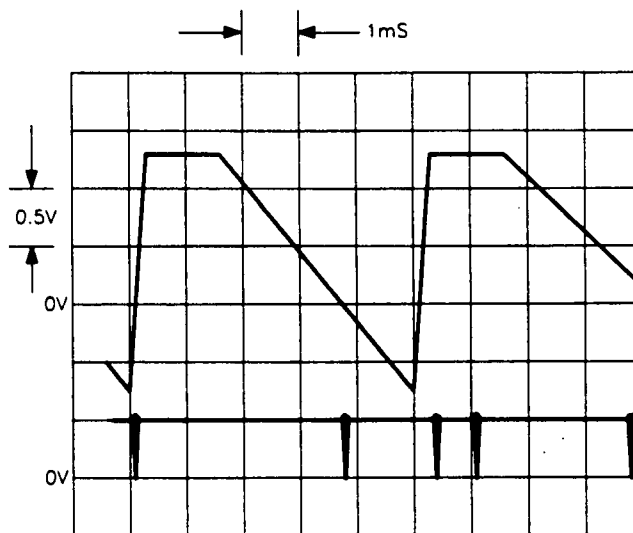

**Figure 3.** VCO Tune and Beatnote Detector.
8. Connect Chan 2 to A4W2, open pin. Verify that the oscilloscope display shown in Figure 3 is correct.